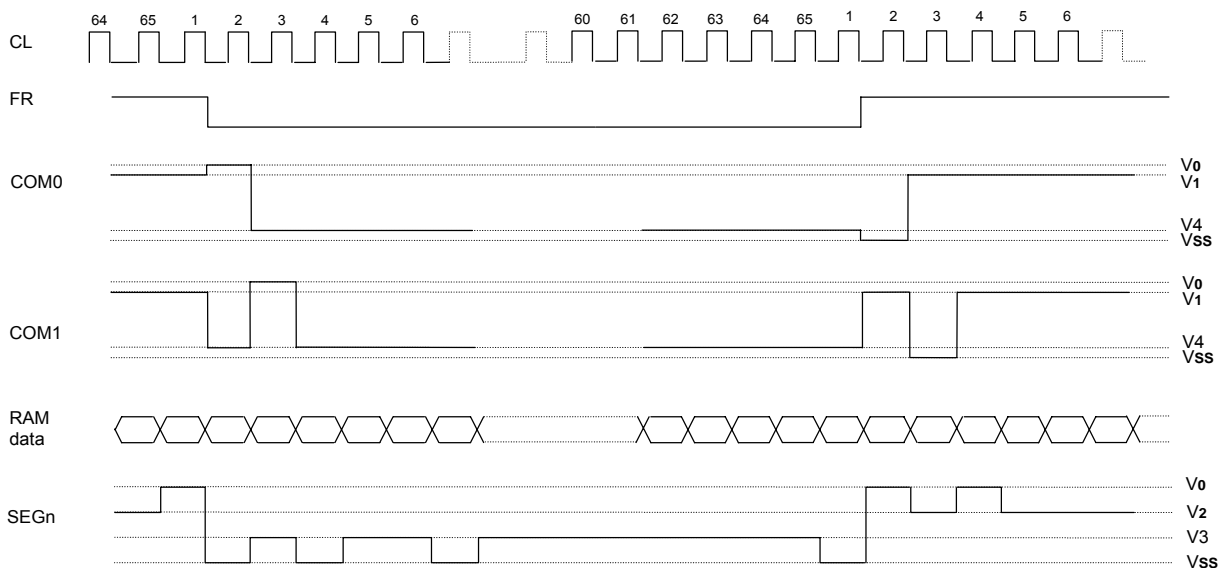

Figure. 5
Moreover, the display timing generator circuit generates the common timing and the liquid crystal alternating current signal (FR) from the display clock. It generates a driving waveform using a 2-frame alternating current drive method, as is shown in Figure 5, for the liquid crystal drive circuit.